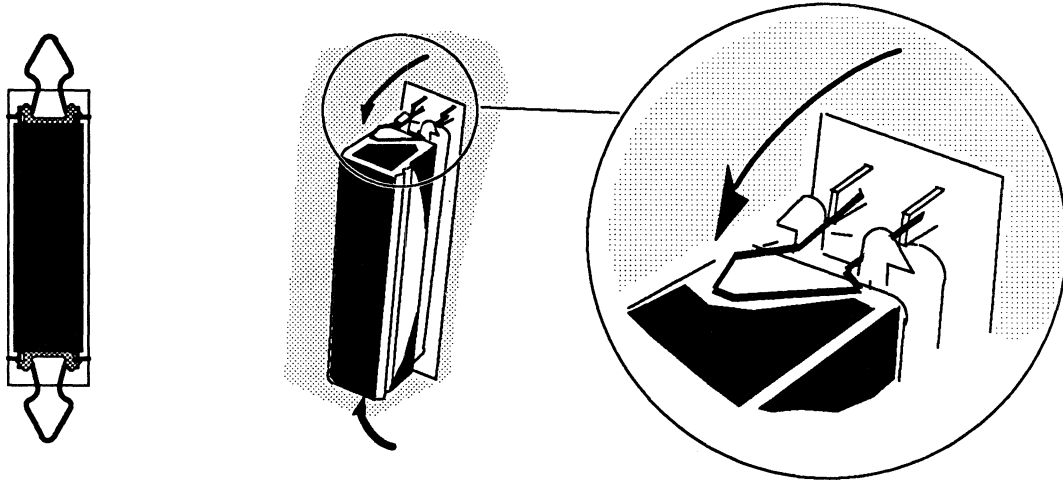

Figure 2-13 Securing a SCSI Bus Terminator
3. Push the spring clips attached to the SCSI 1 connector straight down or straight up into the brackets on the terminator plug, as shown in Figure 2-13. Your vertical pressure will push the clips into place; do not squeeze or pull the clips out of shape.